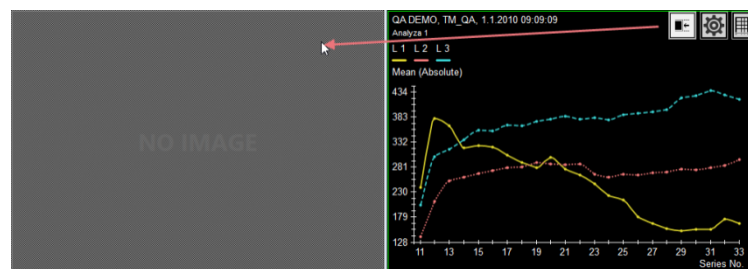

Figure 390 – Linking left segment with analysis chart
2. Drag the mouse cursor over a segment to be linked. The segment will be highlighted (see Figure 390).